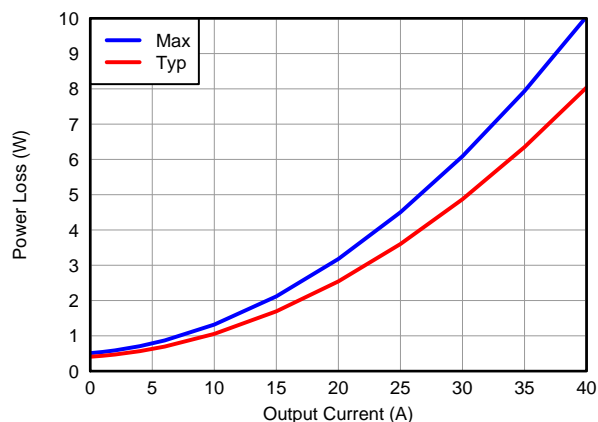
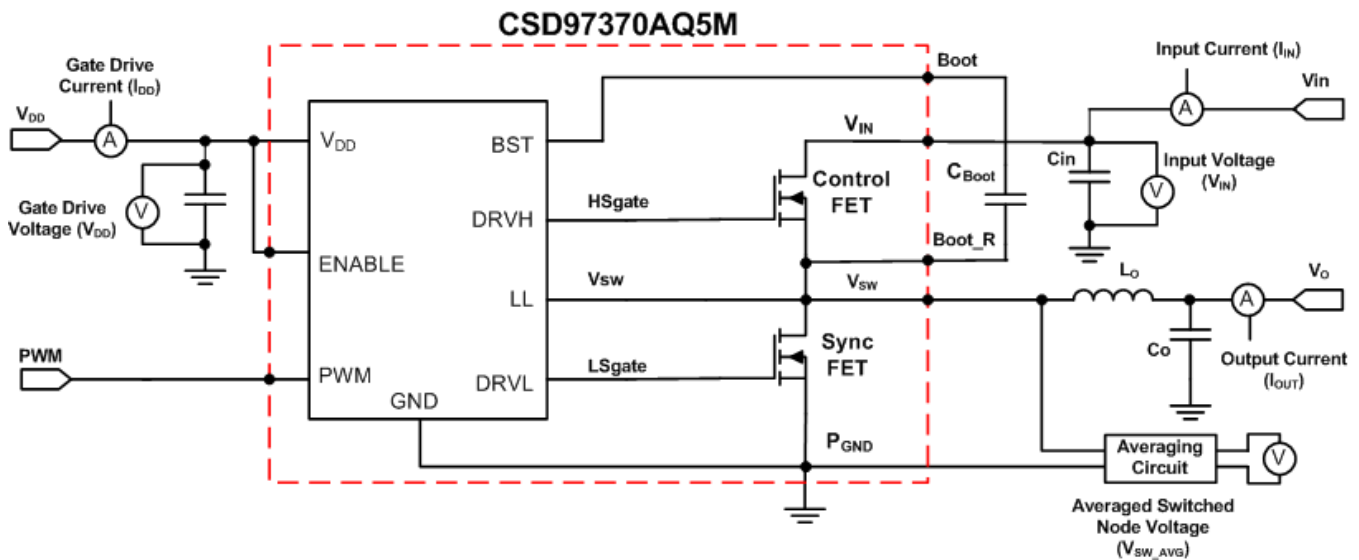

Figure 7. Power Loss vs Output Current
Figure 18. Power Loss Test Circuit
MOSFET centric parameters such as $R_{DS(ON)}$ and Q_{gd} are primarily needed by engineers to estimate the loss generated by the devices. In an effort to simplify the design process for engineers, Texas Instruments has provided measured power loss performance curves. Figure 7 plots the power loss of the CSD97370AQ5M as a function of load current. This curve is measured by configuring and running the CSD97370AQ5M as it would be in the final application (see Figure 18). The measured power loss is the CSD97370AQ5M device power loss which consists of both input conversion loss and gate drive loss. Equation 1 is used to generate the power loss curve.
The power loss curve in Figure 7 is measured at the maximum recommended junction temperature of $T_J = 125^\circ\text{C}$ under isothermal test conditions.
- Typical Power Loss at 25A = 3.5W (Figure 7)